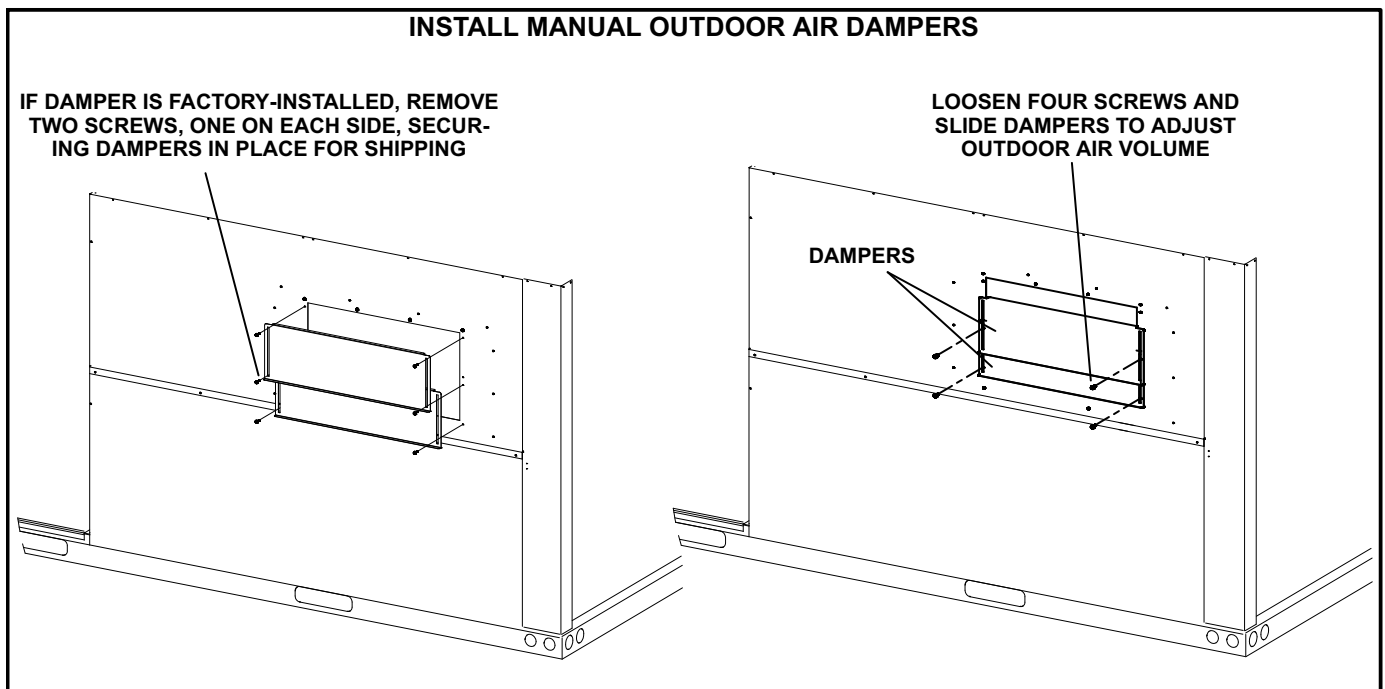

FIGURE 7
- 3- If manual damper is factory-installed instead of cover plate, remove two screws securing dampers in place for shipping. See figure 7. Go to the *Install Outdoor Air Hood* section.
- 4- Install the manual dampers using the retained screws. See figure 7.